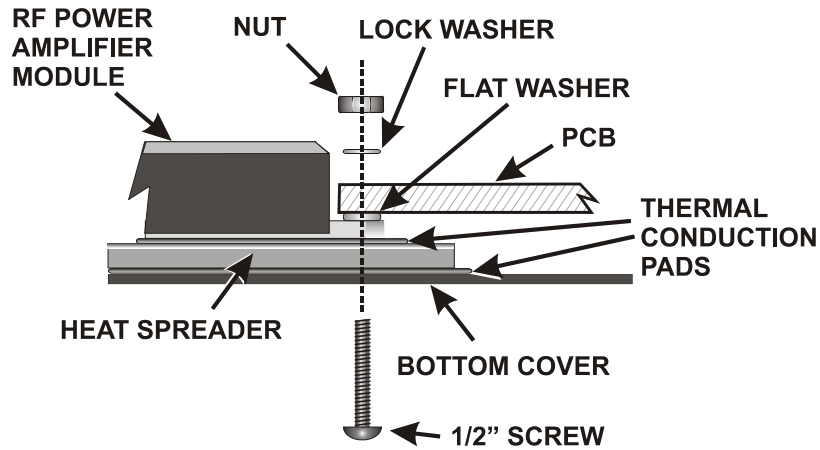

Figure 36. RF Amplifier Module Mounting Hardware.
In the following steps you will install the hardware that attaches the RF power module to the bottom cover. Follow the steps carefully to ensure the module makes good thermal contact with the bottom cover and the leads line up properly with the RF board. The completed hardware assembly is shown in Figure 36.
- Inspect the RF Power module to be sure you have the module and hardware installed exactly as shown in Figure 36.